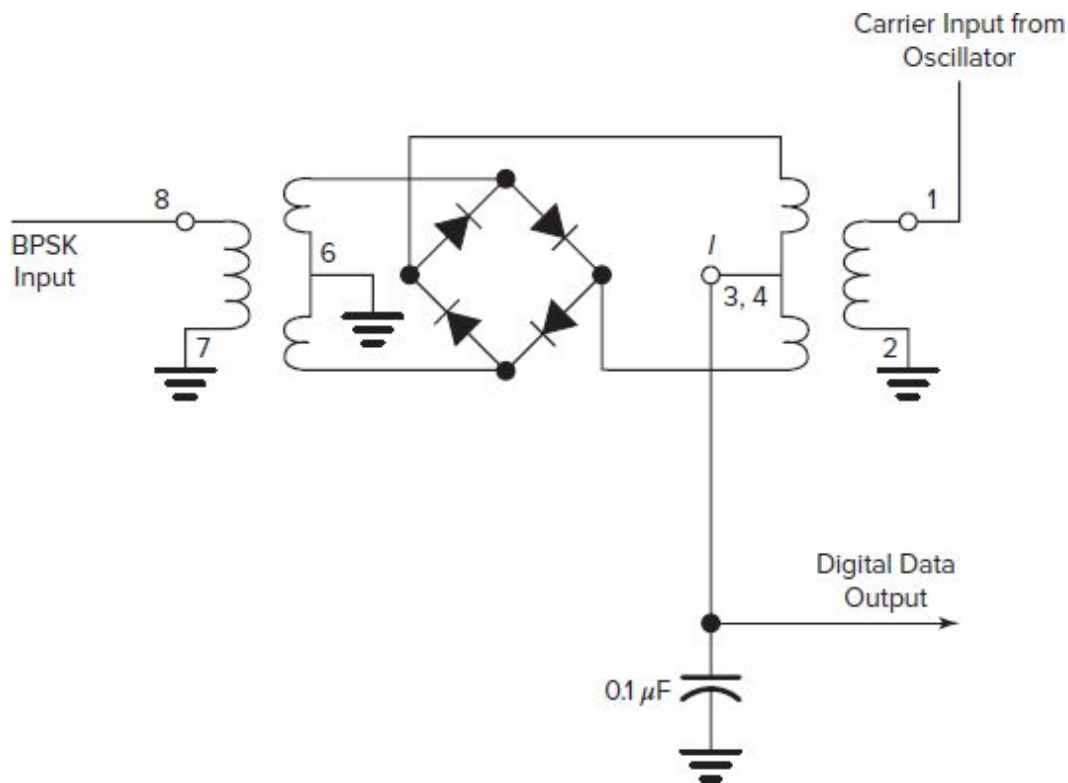

Fig. 10-10 BPSK demodulator.
6. Next, build the demodulator circuit shown in Fig. 10-10. The BPSK signal from the modulator is applied to the primary of T_1 and the carrier is applied to pin 1 of the SBL-1-1+ in the